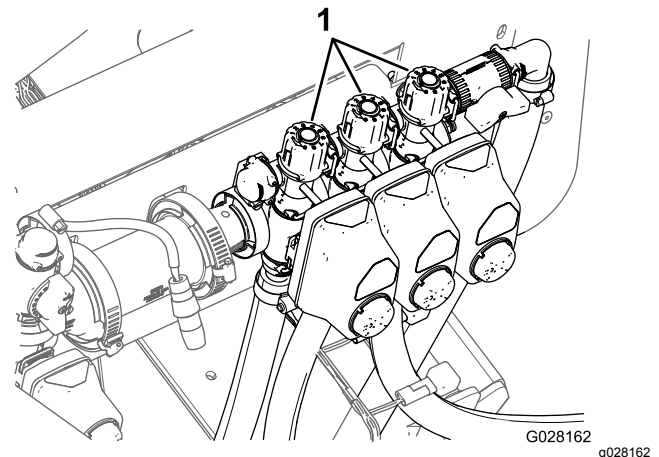

Figure 37
9. Adjust the section bypass valve (Figure 37) at the top of the section control valve for the boom section you turned off until the pressure reading on the gauge is the same as the pressure reading that you recorded in step 7.